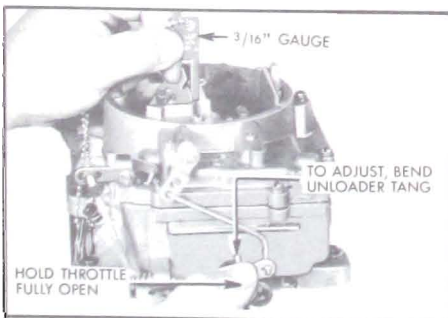

Figure 3-51—Unloader Adjustment
5. Adjust Unloader. Hold throttle wide open and check clearance between upper edge of choke valve and inner wall of air horn using the 3/16" gauge or a 3/16" drill. Bend unloader tang on throttle shaft lever as required to obtain this clearance using pliers. See Figure 3-51.